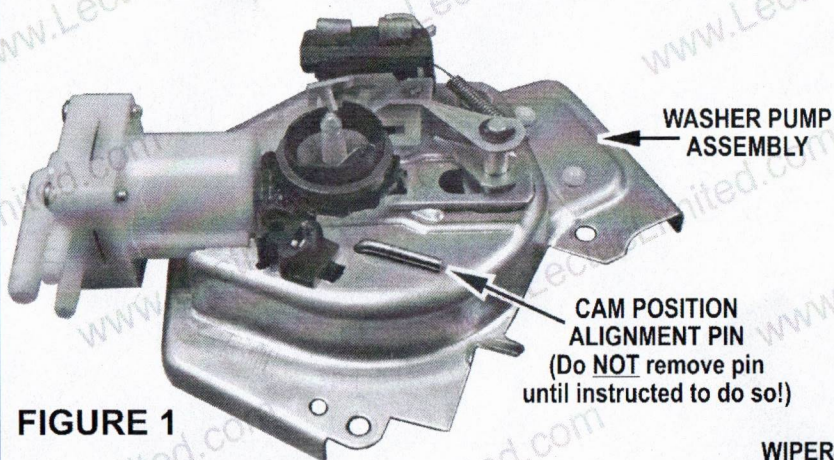

FIGURE 1
DO NOT REMOVE the cam position alignment pin (Figure 1), until instructed to do so.
6. Remove the Cam Position Alignment Pin (Figure 1). (DO NOT FORGET TO REMOVE THIS PIN!)